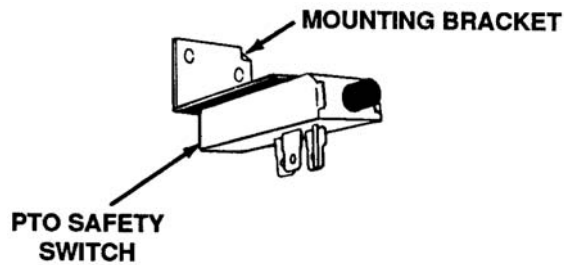

Figure 3-2. Mounting Bracket.
1. The PTO safety switch mounting bracket was changed for added support to 14 gauge steel. This will retrofit 1990 production units. See Figure 3-2.